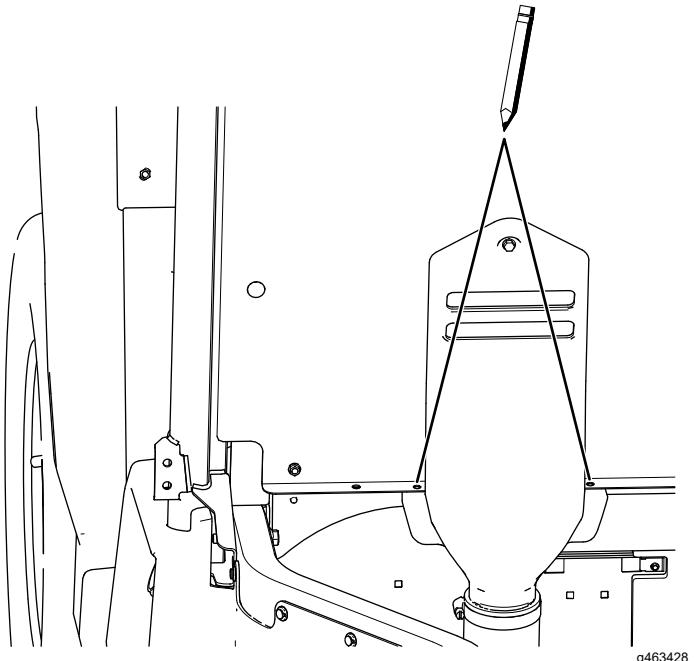

Figure 25
- Using the CVT-intake hood as the template, mark the 2 hole locations (Figure 25).